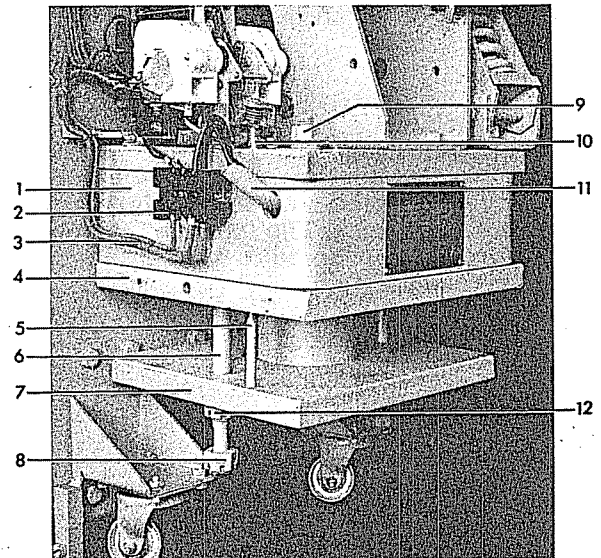

Figure 27 (8022045) Closing Solenoid Assembly
The closing coil is contained within the solenoid pot (1) Figure 27. To remove the closing coil, proceed as follows:
2. Remove the two closing coil leads (11).